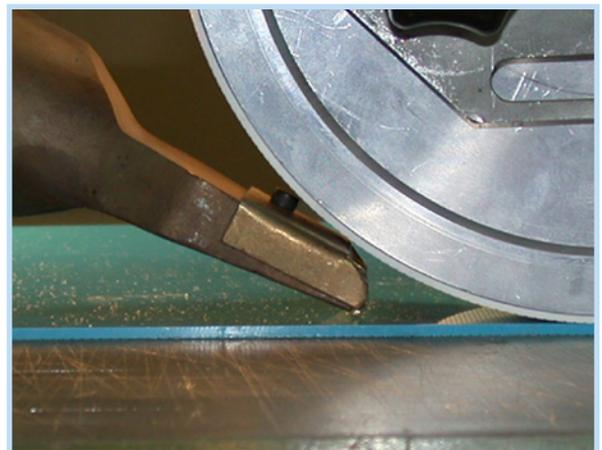

Fig. 4
- The Leister nozzle must be adjusted to be as close as possible and parallel to the base belt and the Sidewall/Strip (Fig. 4). It is important to melt both the base belt and the bottom of the Sidewall /Strip equally.